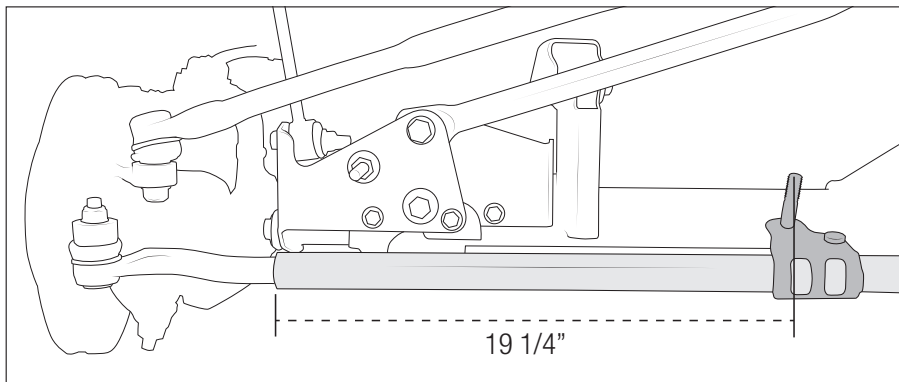

Figure 8
4. To position the tie rod bracket properly, measure 19 1/4" from the edge of the tie rod tube to the center of the stud as shown (Fig. 8). Rotate the tie rod bracket until the stud is pointing just forward of straight up. Tighten the mounting bracket at this location. After the mounting bracket is tight, tighten the factory steering stabilizer to bracket nut, torquing to 37 ft-lbs.